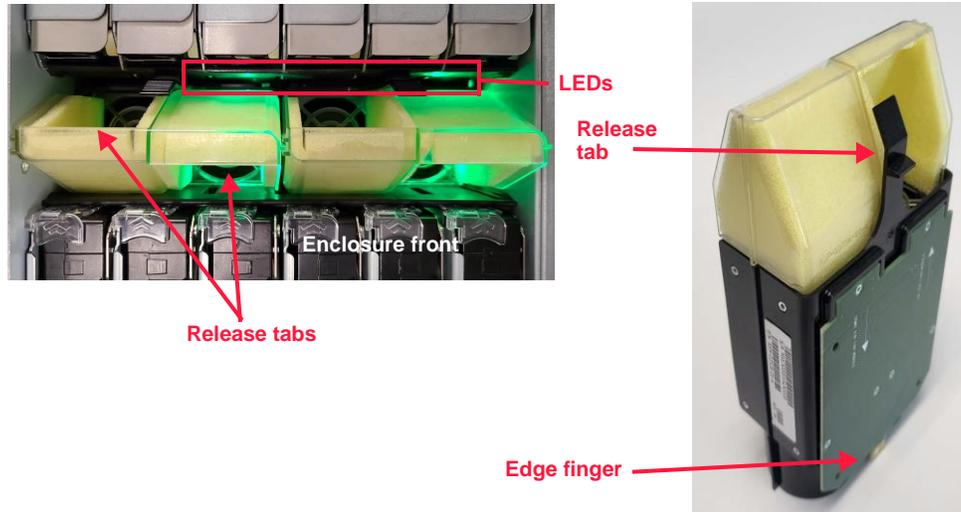

Figure 6.14 Fan module
3. Push in on the release tab on the fan module identified in Figure 6.14.